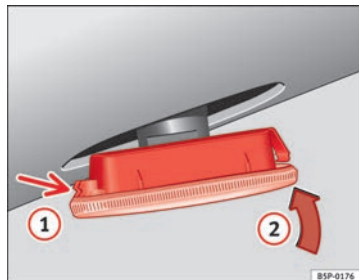

Fig. 205 Side turn signal
- First place the turn signal in the opening in the bodywork, fixing the tabs ⇒ Fig. 205, arrow ①.
- Insert the bulb as shown by the arrow ② ⇒ Fig. 205. ■